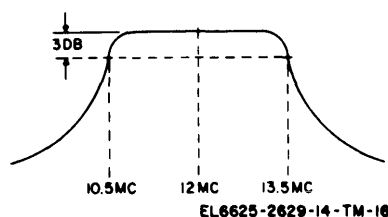

Figure 7-9. If amplifier response curve.
Whenever repairs are made to circuitry involving V2 or V1, the alignment of the if. amplifiers should be checked. The response curve should resemble that shown in figure 7-9. If the response curve is not the proper configuration, the if amplifier will need alignment. Check and align the if amplifier as follows:
i. If the response curve does not resemble closely that shown in figure 7-9, adjust the trimmers of T6, C109, and T1 in that order. Repeat as required.